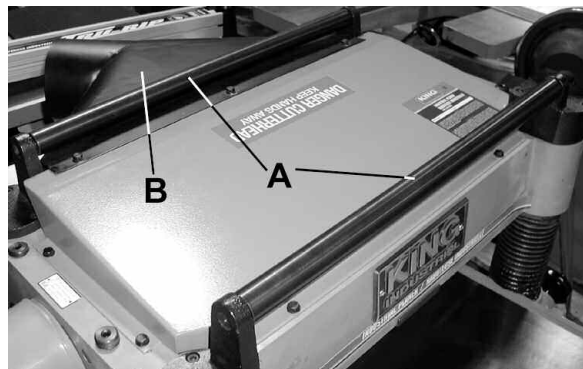

FIGURE 29
The two return rollers (A) Fig. 29 on the top of the planer serve as a convenient stock rest. When planed lumber is returned to the infeed side, it saves time and motion.
This standard accessory dust collector hood (B) Fig.29 is assembled to the rear of the planer using hex. bolts and washers. Connecting a dust collector to your planer provides an efficient means of maintaining a clean and safe work area. Good dust collection and chip removal is essential for smooth planing.